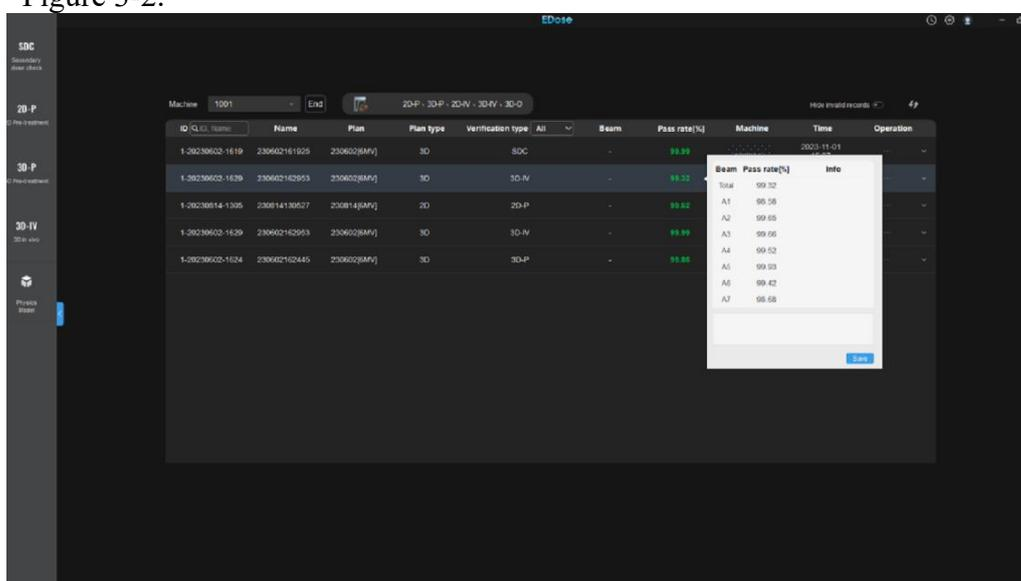

Figure 3-2 Plan pass rate
- 2) Hovering the mouse over the "Pass rate [%]" of a specific measurement will display the overall pass rate of the plan. Clicking on it will then cause a pop-up window to appear, showing the pass rate of each field under the plan, as shown in Figure 3-2.